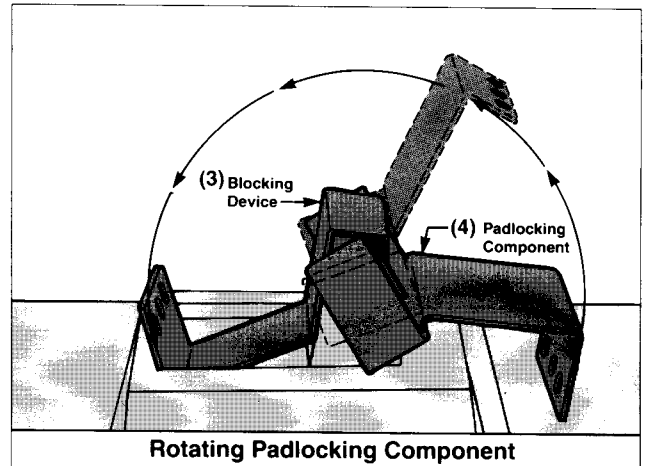

Figure 3
The padlocking device, MN6HPL, consists of the handle blocking device (3) and an additional component (4) that permits padlock securement of the circuit breaker handle in the OFF position (Figure 3). Field modification of the handle blocking device will also permit padlock securement of the circuit breaker handle in the ON position.
- A. Slide the retaining slots of the padlocking component (4) over the handle blocking device retaining screws. Position the padlocking component at the angle shown in Figure 3.